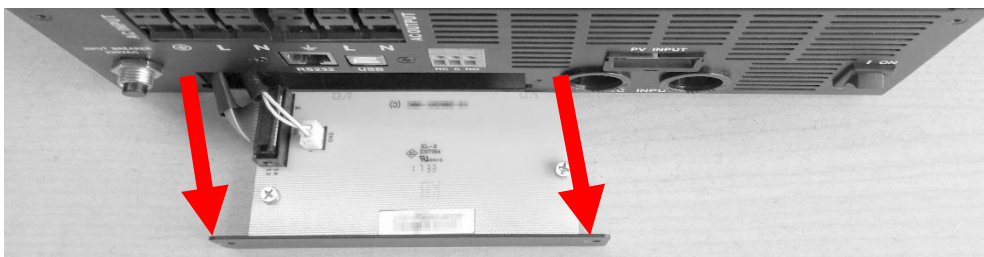

Figure 10: Pull out dummy board
2. Carefully pull out the beige dummy board as shown in Fig. 10. Take care to pull the attached cables out only as far as is absolutely necessary. Do not use excessive force.